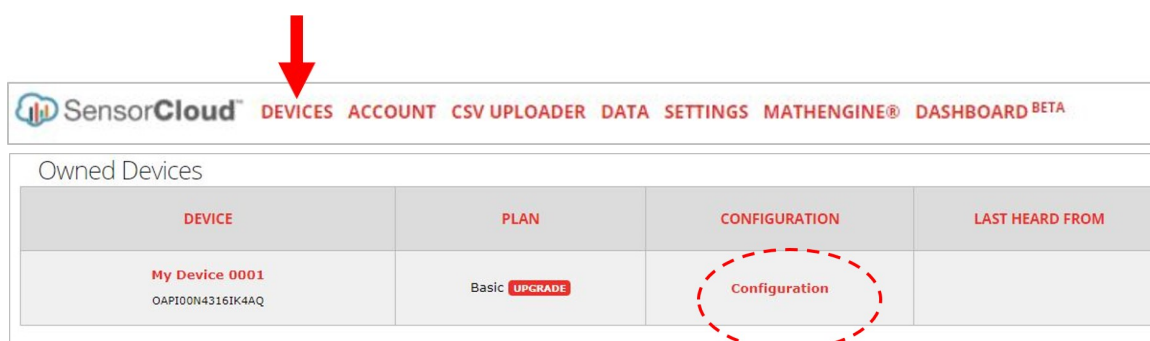

Figure 45 - Gateway Configuration
1. While in SensorCloud™ open the Devices menu, and select the device Configuration link (Figure 45 - Gateway Configuration).